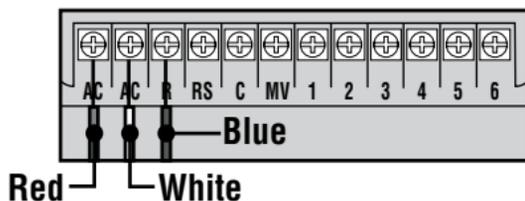

**Figure 1.**
2. Feed the red, white, and blue wires of the SmartPort® through the base of the "Tee" and into the controller wiring compartment as shown in Figure 1.
3. Screw the SmartPort® housing into the "Tee" (or other fitting) as shown in Figure 1.